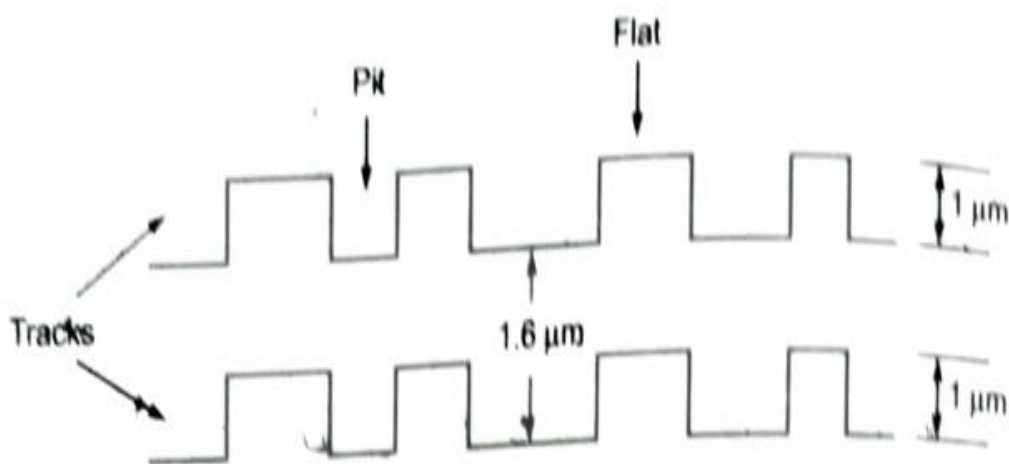

Fig. 10.1: Pits and Tracks on CD
- Fig 10.1 shows the pits on a CD.